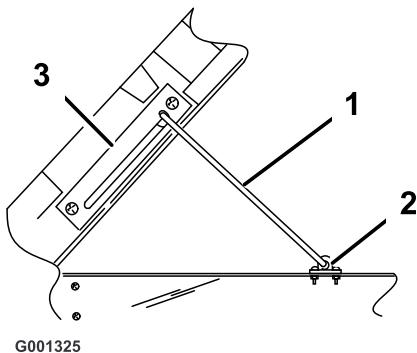

Figure 7
8. Remove the screws and clip securing the prop rod to the frame rail (Figure 7).
9. Remove the screws securing the prop rod bracket to the underside of the box. Remove the retainer securing the rod to the bracket and remove the rod (Figure 7). Retain the prop rod components for future use.